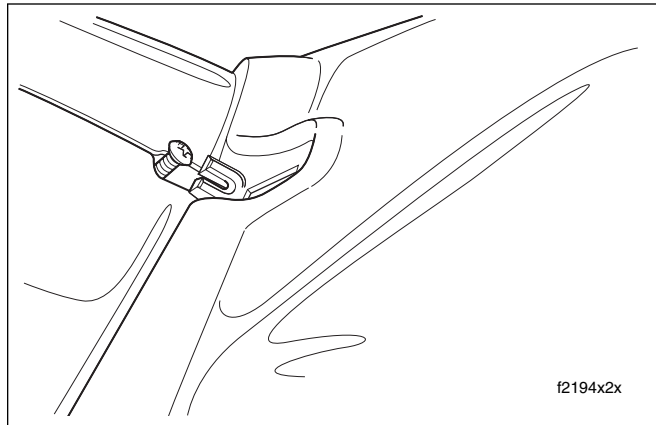

Figure 2-186. Remove Screw From Slot in Wind Deflector
6. Loosen Phillips screw at front of wind deflector (but do not remove). Reaching inside the headlamp nacelle, release screw head from slot in tab and then draw screw assembly down and out through headlamp nacelle. See Figure 2-186.
7. Holding screw assembly, reach inside headlamp nacelle and insert head of Phillips screw up through opening to engage slot in tab at front of wind deflector. See Figure 2-186. Tighten screw to 10-20 **in-lbs** (1.1-2.3 Nm).